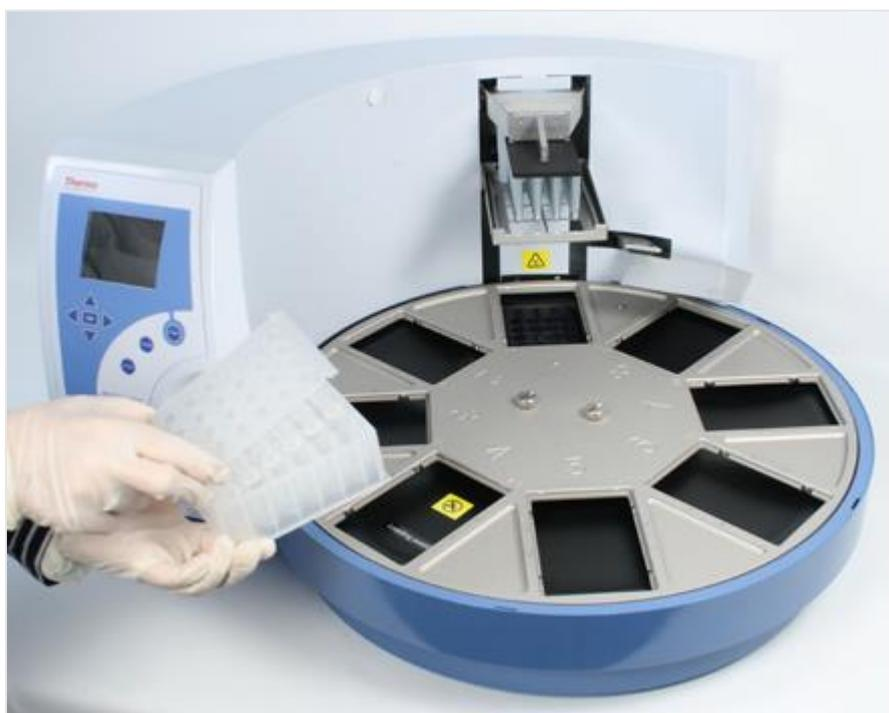
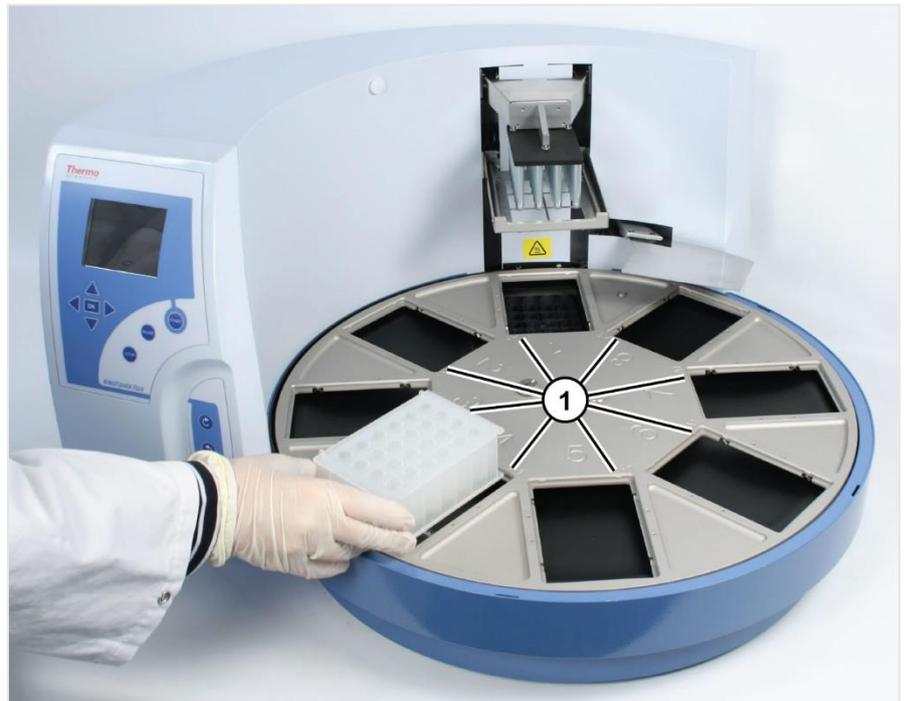
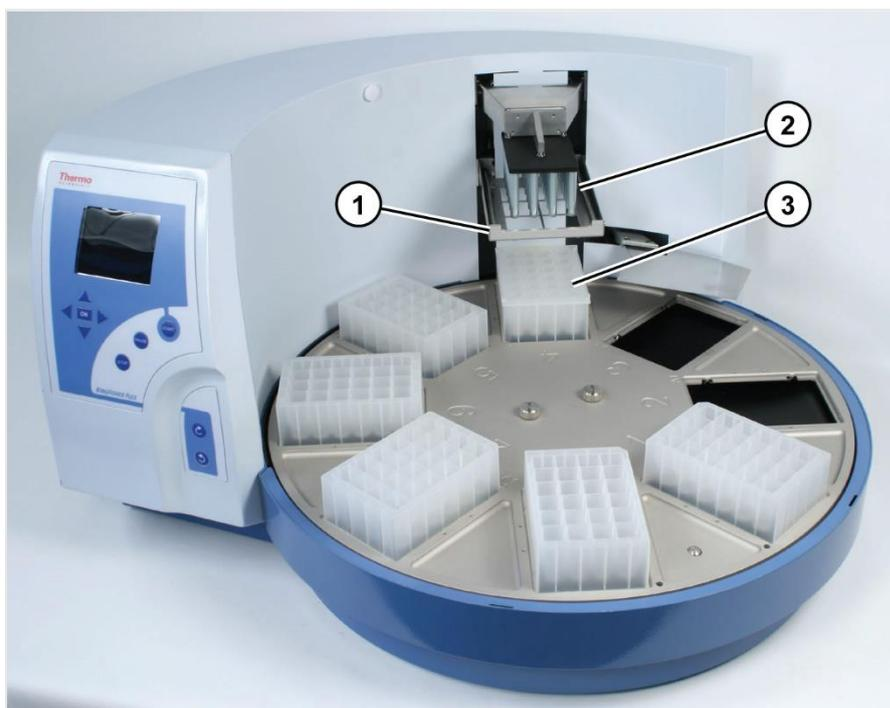

Figure 39. Combine the tip comb and KingFisher plate (A)
Figure 41. Load the tip-plate
Figure 43. Plates loaded
3. Load the plates in the order that the protocol requests (Figure 41 through Figure 43). Place the A1 well of the plate so that it is in the upper right corner. The first A1 row is consequently always in the inner circle. Once you have loaded the requested plates into the plate stations, press **START**.
Place the tip comb always manually onto a KingFisher plate (Figure 39 through Figure 41). The instrument also functions with either one plate or up to eight plates depending on the number of steps.